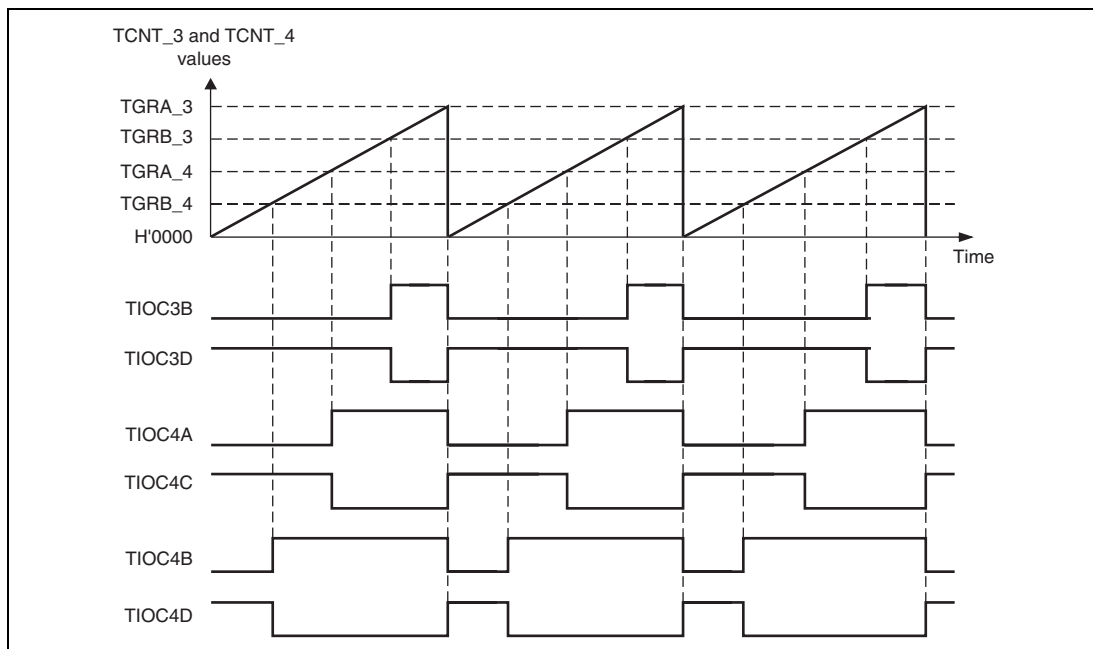

**Figure 11.31 Reset-Synchronized PWM Mode Operation Example**
**Reset-Synchronized PWM Mode Operation:** Figure 11.31 shows an example of operation in the reset-synchronized PWM mode. TCNT\_3 and TCNT\_4 operate as upcounters. The counter is cleared when a TCNT\_3 and TGRA\_3 compare-match occurs, and then begins incrementing from H'0000. The PWM output pin output toggles with each occurrence of a TGRB\_3, TGRA\_4, TGRB\_4 compare-match, and upon counter clears.